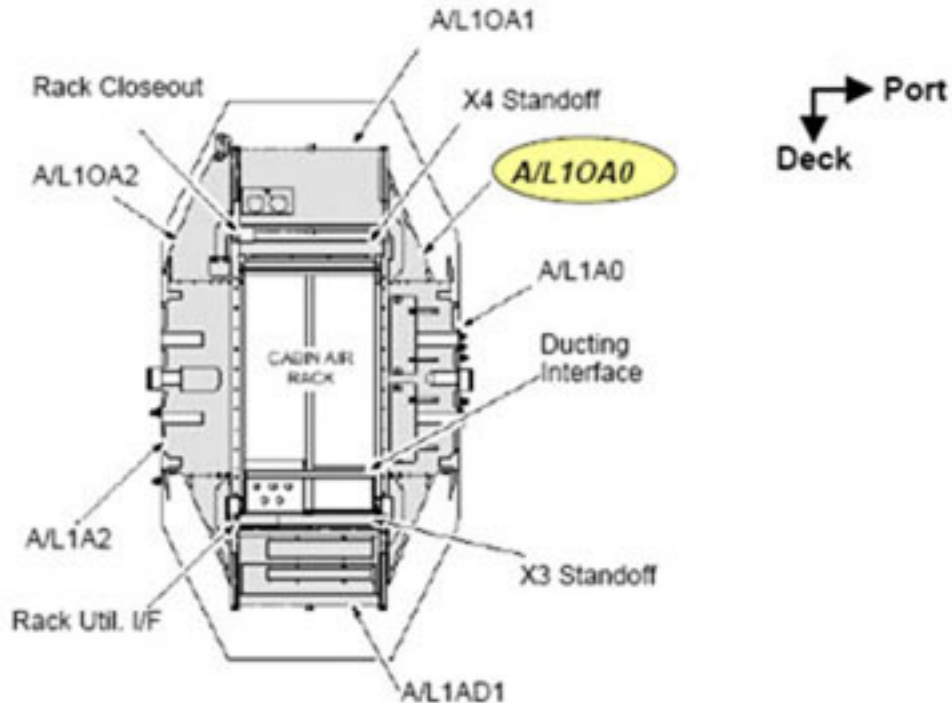

Figure 2. Location of Closeout Panel A/L10A0.
QDs must be closed to remove caps. As needed, refer to Figure 2 at the end of this procedure for reference information on the high pressure quick disconnects.
- 4.1 Unfasten Closeout Panel A/L10A0 fasteners (ten), remove panel (Ratchet, 1/4" Drive; 5/32" Hex Head). Temporarily stow panel. Refer to Figure 2.